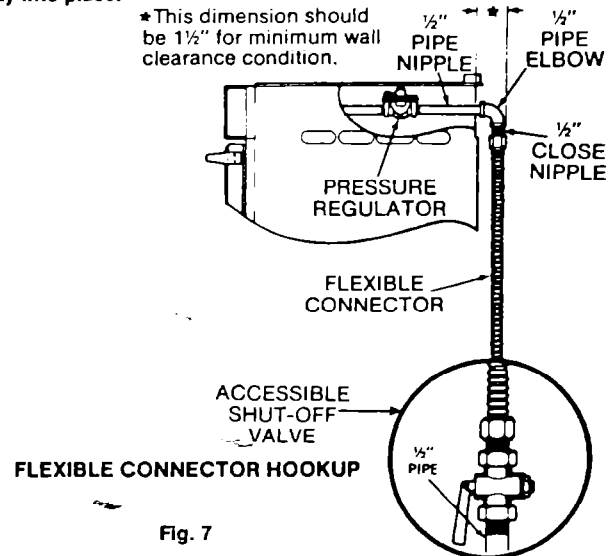

Fig. 7
**See Figure 7 for pipe hookup. Never reuse an old connector when installing a new range.**